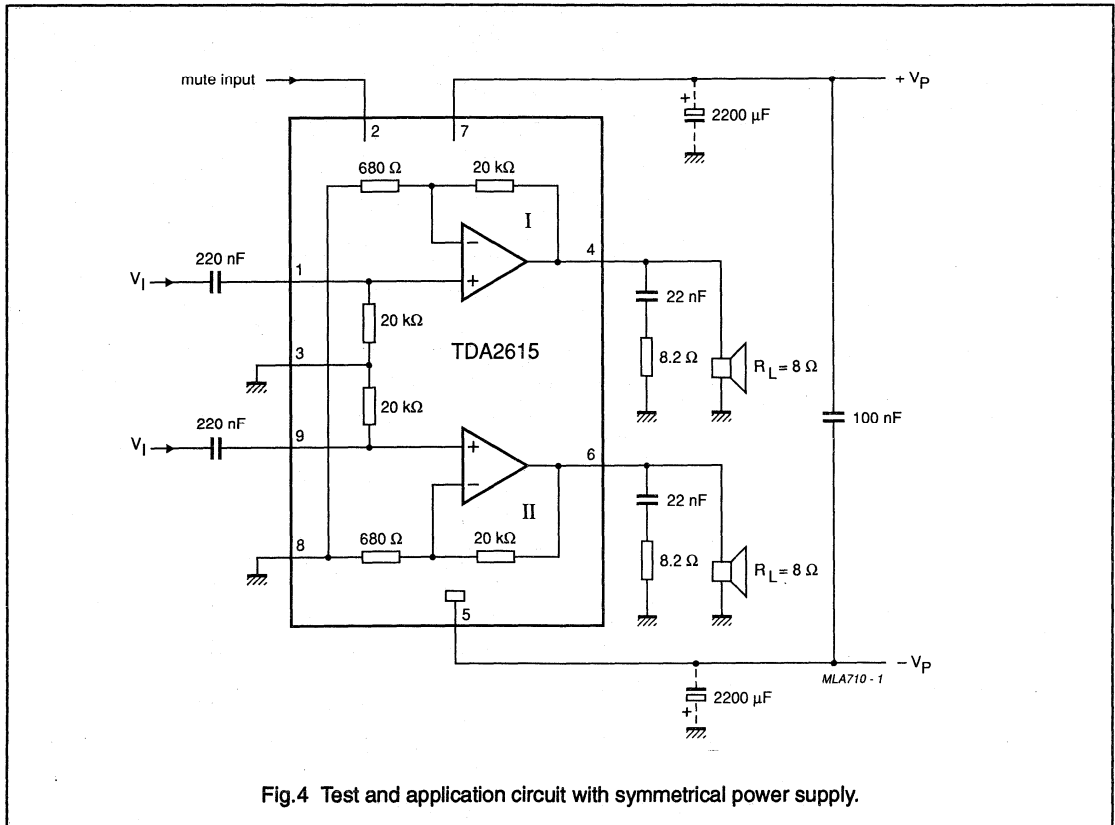

Fig.4 Test and application circuit with symmetrical power supply.
- $V_p = \pm 12 \text{ V}$; $R_L = 8 \Omega$; $T_{\text{amb}} = 25 \text{ }^\circ\text{C}$; $f = 1 \text{ kHz}$; symmetrical power supply $I_{\text{MUTE}} < 30 \mu\text{A}$. See Fig.4
- $\pm V_p = 4 \text{ V}$; $R_L = 8 \Omega$; $T_{\text{amb}} = 25 \text{ }^\circ\text{C}$; $f = 1 \text{ kHz}$; symmetrical power supply. See Fig.4